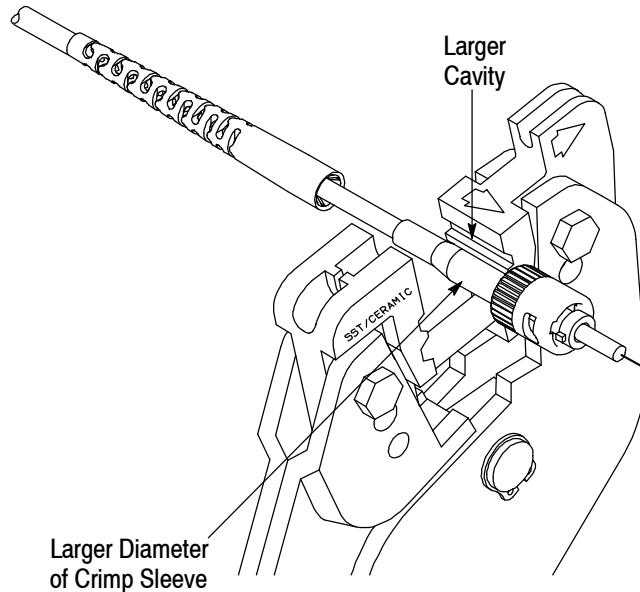

Figure 11
c. Using the crimping tool, place the larger cavity around the larger diameter (closest to the connector body) of the crimp sleeve. See Figure 11.